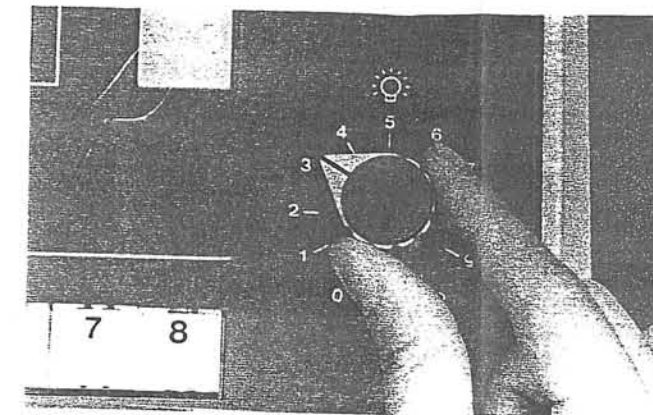

Fig. 39
8. Look through the viewfinder of the photographic camera and turn the illumination intensity control knob on the power control unit until the image in the field of view is visible most clearly (where the knob setting is usually 2 or 3). Intensity increases as the knob is turned clockwise. (Fig. 39)